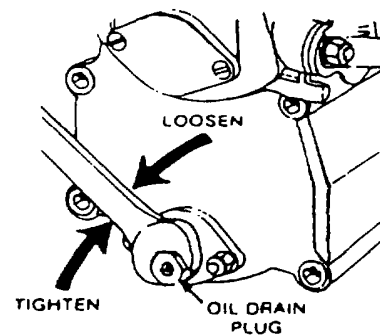

Figure 4-4.
- (3) Remove oil drain plug (5, Fig. 1-3) as shown in Figure 4-4 Drain oil from engine crankcase.
- (4) Install oil drain plug (5, Fig. 1-3) as shown in Figure 4-4 Tighten plug securely.
- (5) Fill engine crankcase with lubricating oil. (Ref. para 2-1g) Table 2-2.